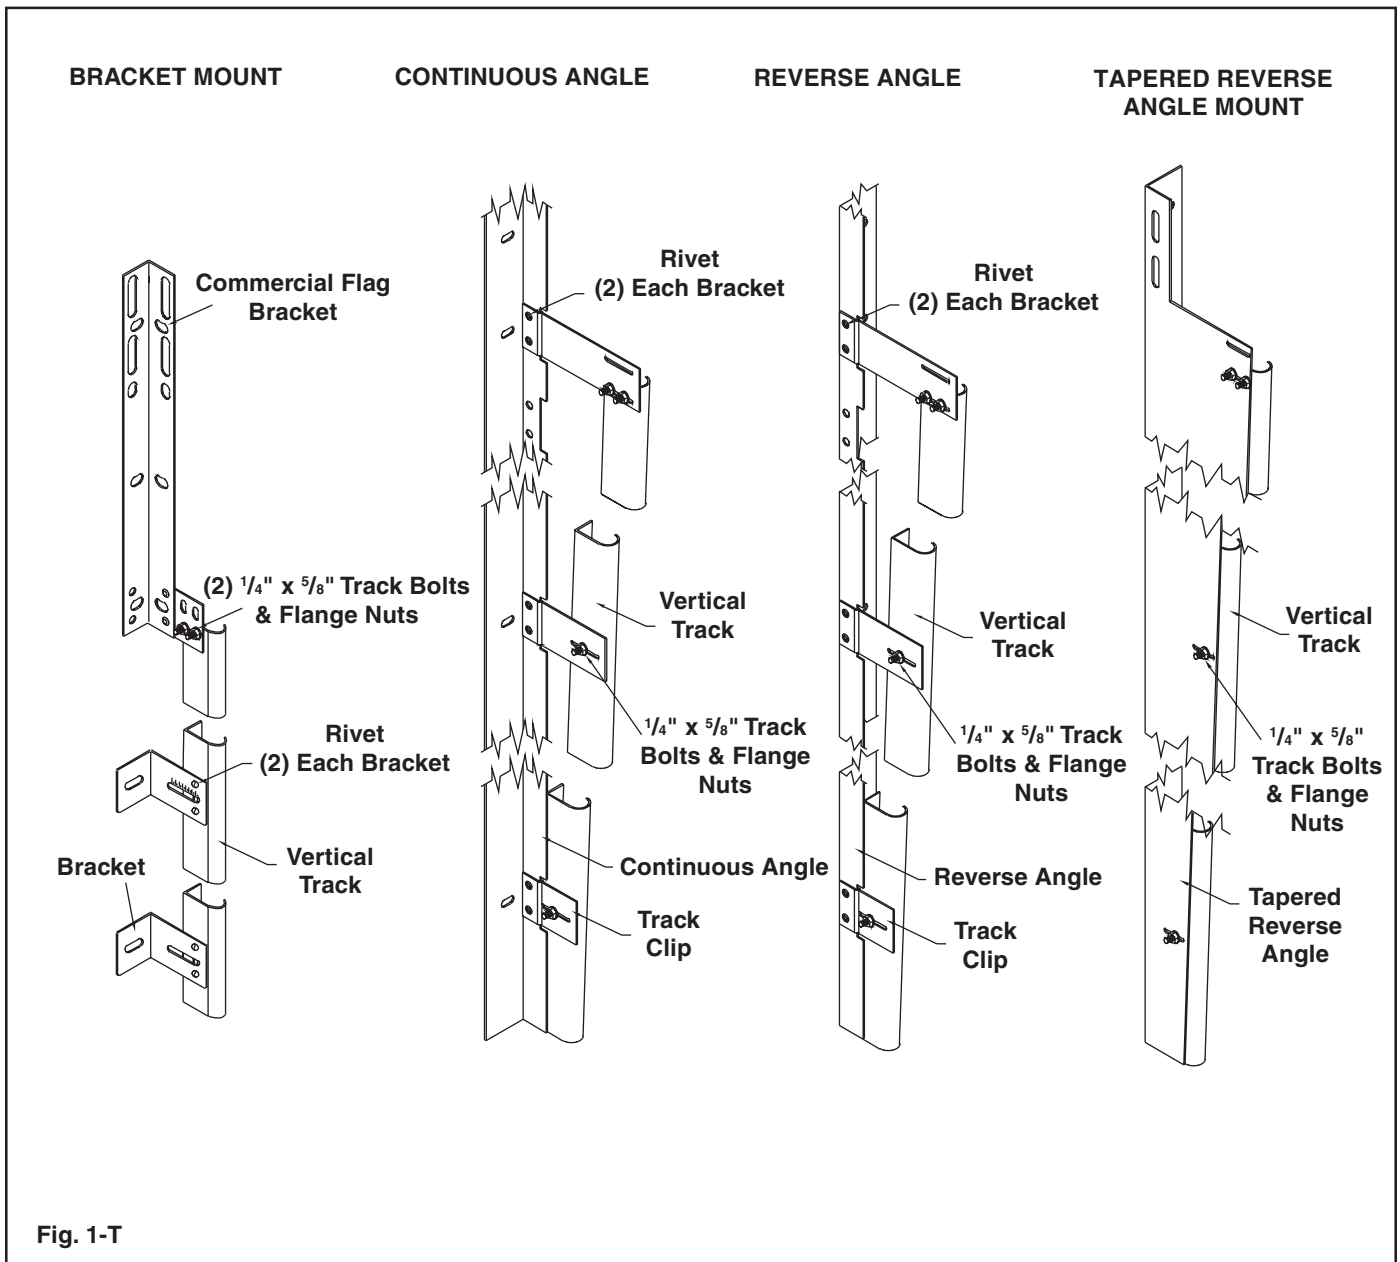

Fig. 1-T
2. Type of lift - Each type of lift is different from the top of the door on up. However, the vertical track from the floor to the top of the door does not change between the different lift options. (FIG. 1-T) Therefore, the vertical track instructions to the top of the door are explained in one group (Step 1). Then turn to your specific type of lift for completion of the installation.
3. Type of mounting - Bracket mounting is used on lighter doors with wood jambs. Brackets are loose or riveted into place. Loose brackets are attached to the track with (1) $\frac{1}{4}$ " x $\frac{5}{8}$ " track bolt and nut per bracket. Continuous angle and reverse angle track are shipped with mounting angle attached. Loosen nuts on track bolts so track will slide on the angle. (FIG. 1-T)